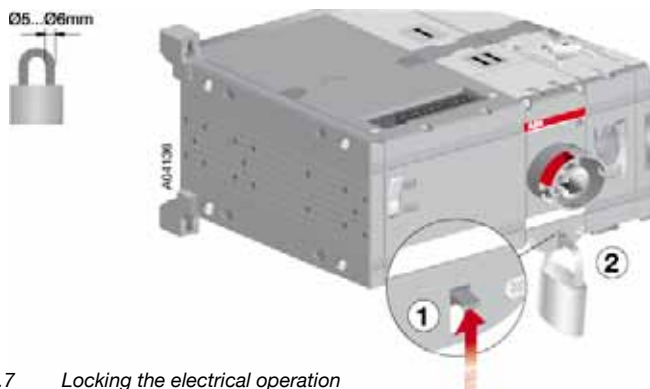

Figure 6.7 Locking the electrical operation
2. Place the padlock under the latch, see Figure 6.7.